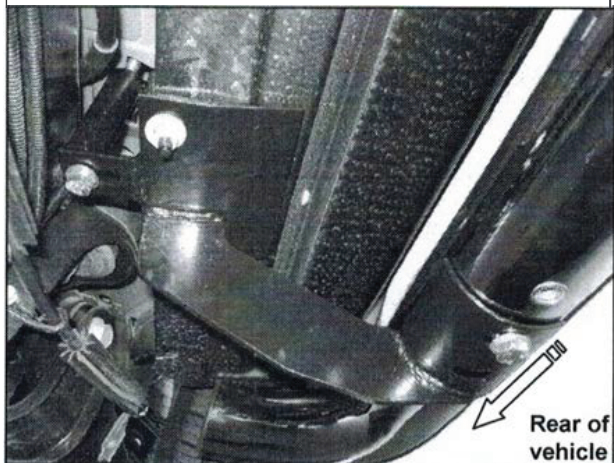

Figure 5
7-08 Explorer Sport Trac: You will need to swap the rear Mounting Brackets. The passenger rear Mounting Bracket will mount on the driver rear, and the driver rear Mounting Bracket will mount on the passenger rear. The front and center cradles on both sides should be facing the rear of the vehicle and the rear cradles on both sides should be facing the front of the vehicle. Rear Mounting Brackets will mount with (1) M10 x 30mm Hex Head Bolt (Figure 5).